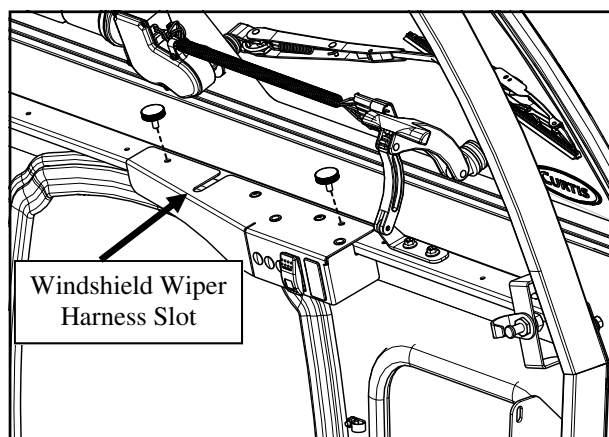

Fig. 14.3 (Switch Panel Installation)
14.3 Coil up any excess wiper harness and wire tie under the cover panel while ensuring the wiper harness slides into the slot in the switch panel and install using the supplied thumb screws. See Fig. 14.3.